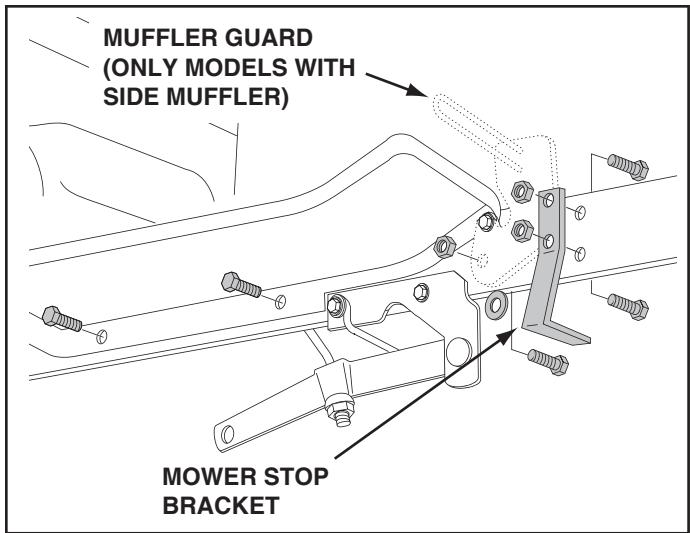

FIGURE 3
- Remove the mower stop bracket and its two bolts and nuts from the R.H. side of the tractor frame as shown in figure 3.
- If the tractor has a muffler guard at the front of the R.H. foot rest, remove the bottom bolt and nut, and the washer which is located between the guard and the tractor frame. See figure 3.
- Remove the two bolts from the bottom of both the R.H. and L.H. foot rests. See figure 3.
- Remove and store the mower stop bracket and bolt from both sides of the tractor frame. See figure 3.